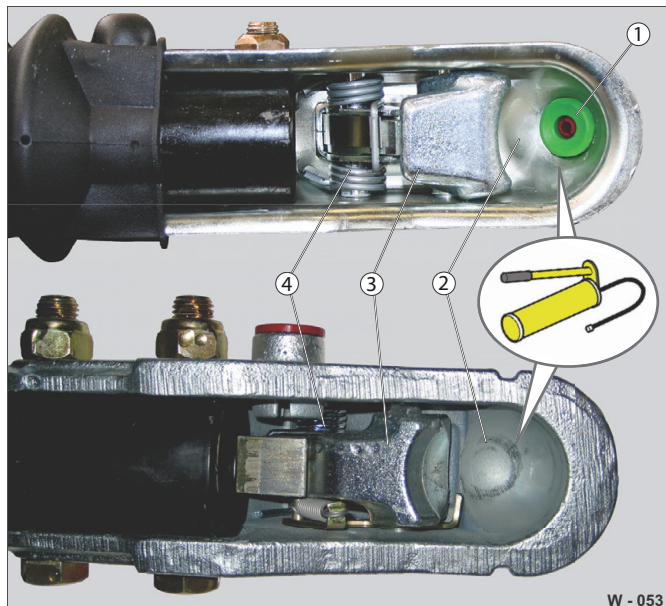

Fig. 42 Ball coupling: Bottom view
- Check the spherical cap (Fig. 42 /2) and the coupling shell (Fig. 42 /3) for wear.
- If the ball head coupling shows significant signs of wear or the spring mechanism (Fig. 42 /4) is malfunctioning, have it replaced.